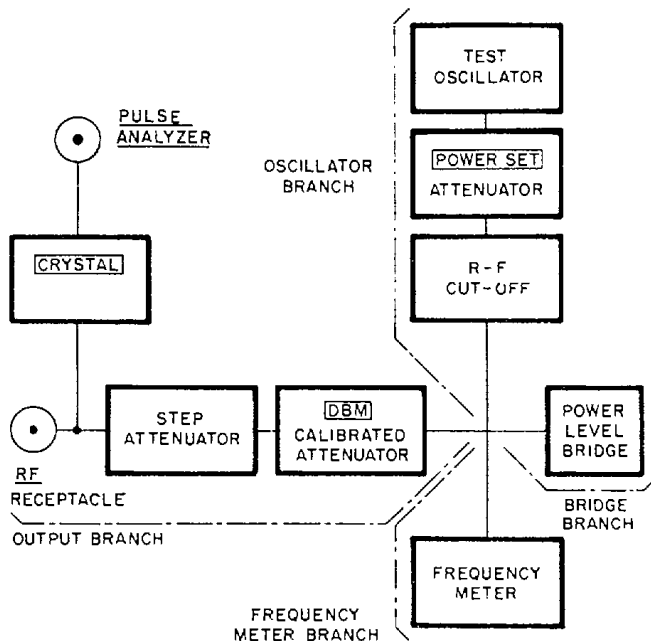

Figure 2-3. Simplified Block Diagram Showing Plumbing Branches
(2) The plumbing is arranged in three general branches: the input-output branch, the oscillator branch, and the thermistor bridge branch. These three branches join in a T-section, at which point a frequency meter is also located. Figure 2-3 is a simplified block diagram showing this arrangement.
(1) The frequency meter assembly consists of a cavity resonator with a dial and a T-section of wave guide that contains the RF cut-off switch. This switch is simply a sliding door that opens or closes the entrance that connects with the oscillator wave guide. The T-section connects the three branches of plumbing. (See figure 2-3.)
(2) The frequency meter itself is a cylindrical cavity resonator, the volume of which may be varied by moving the plunger in or out. It is coupled to the T-section through a hole in the wall of the wave guide opposite the RF cut-off switch. When the cavity is one-half wave length long, it resonates and presents a low impedance at the coupling hole, absorbing some of the power in the wave guide which causes a decrease in power level at the thermistor bridge.
(3) The frequency meter is calibrated to read directly in megacycles/10 (tens of megacycles). That is, each reading must be multiplied by ten to give the frequency in megacycles.